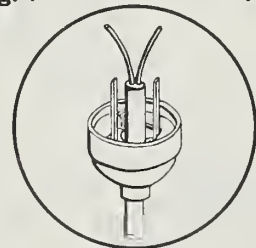

Fig. 3
3. Clip and separate the cord. (Fig. 3)